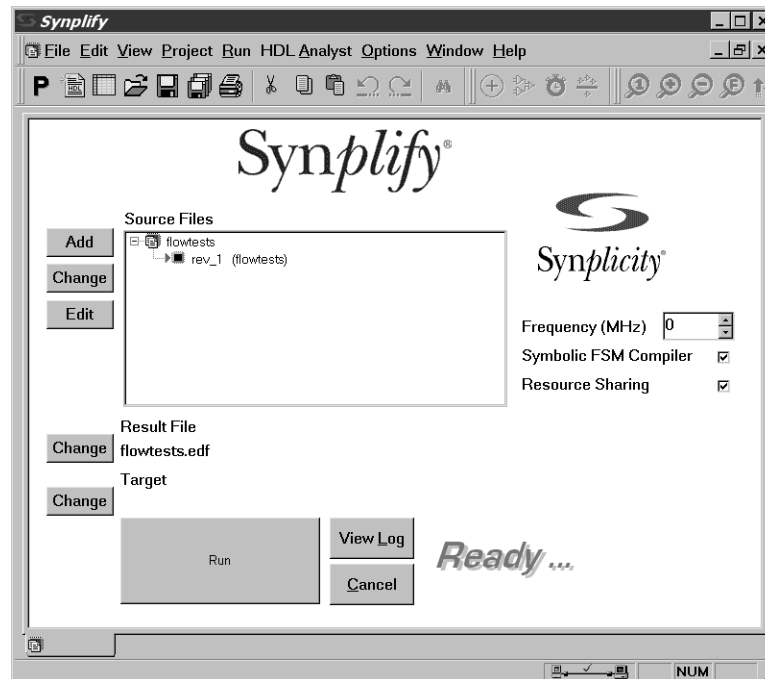

Figure 5-2: Main Project Window
- Click OK to return to the project window (Figure 5-2).